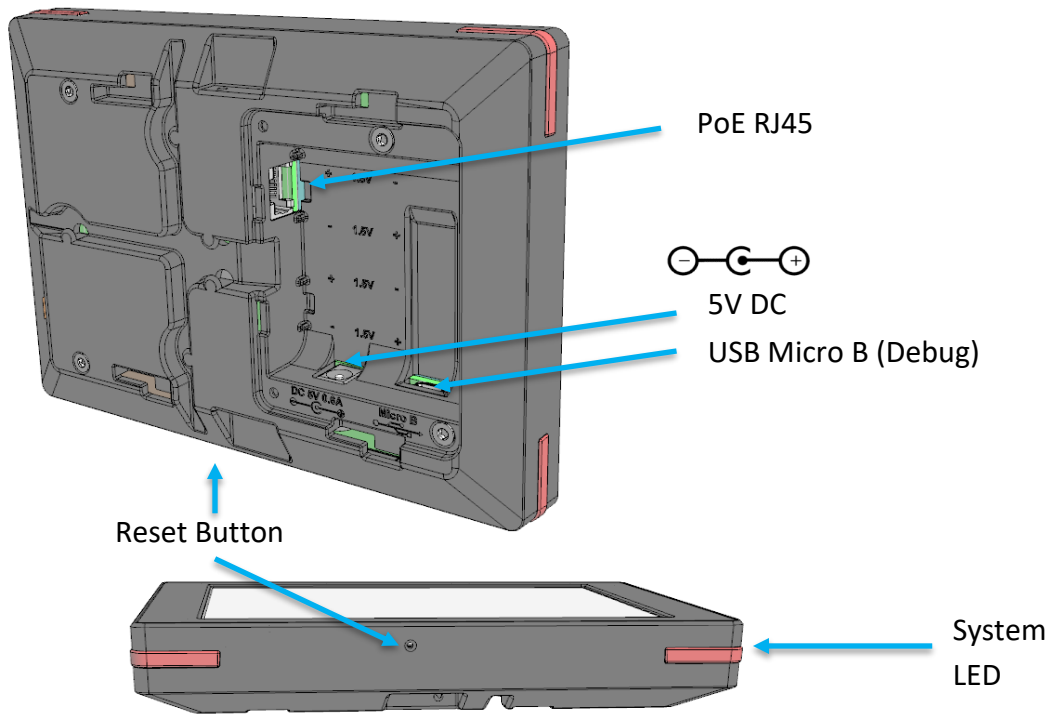
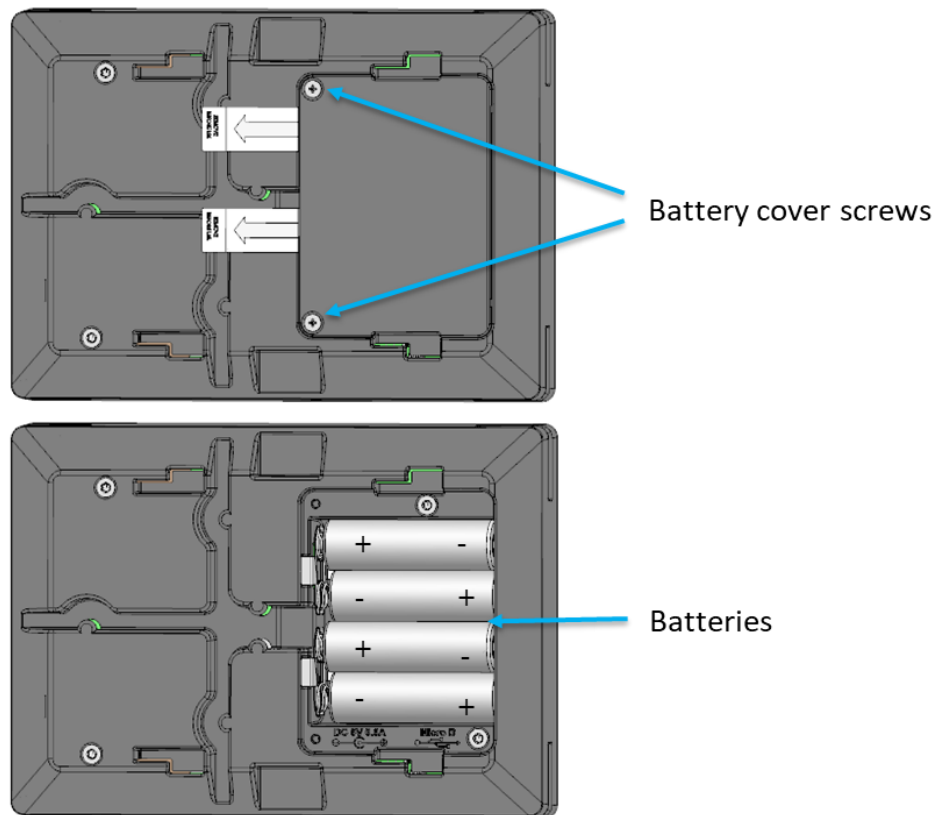

Figure 1-2: The Tablet (external) interface layout.
Figure 1-3: The Tablet (Battery) interface layout.
Figure 1-2 and Figure 1-3 illustrates the customer accessible interfaces of the Tablet. All models share the same layout; however, some functions are not available in some models. The externally powered model shown in Figure 1-2 has RGB LEDs on the corners while the battery powered version shown in Figure 1-3 cannot use the LEDs.
- The reset switch of the Tablet is accessible through a pin hole in the bottom side of the Tablet as shown in Figure 1-2.
- Removed the battery cover by removing two philips screws shown in Figure 1-3